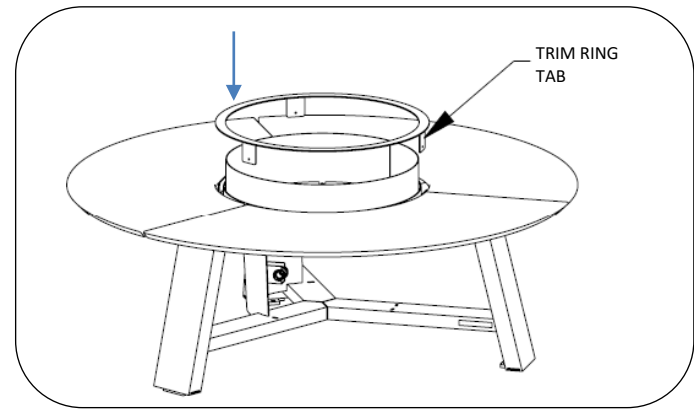
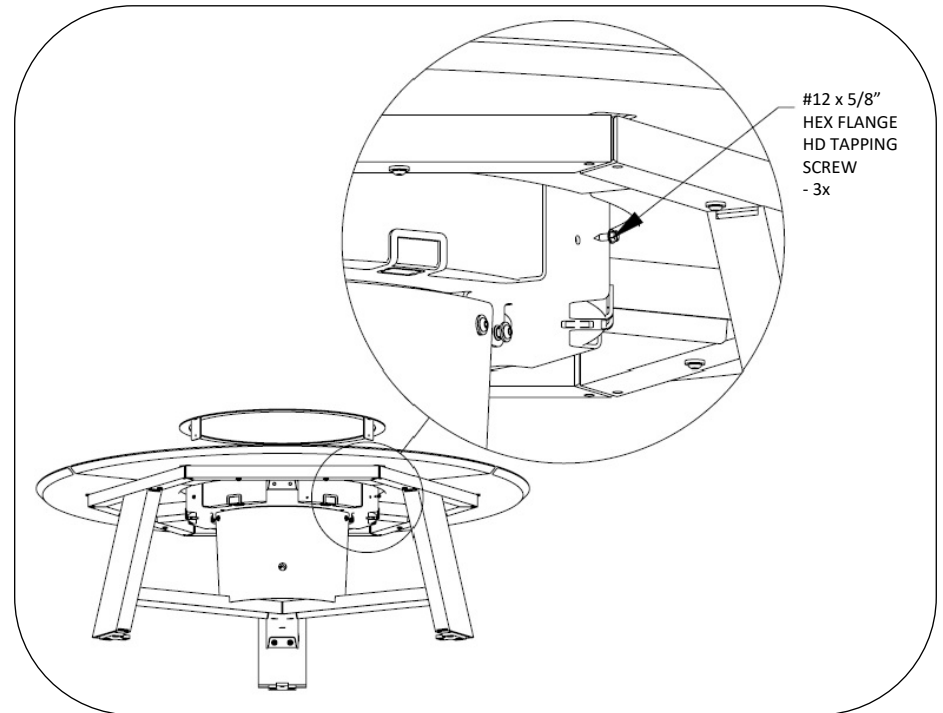

Fig. 4A – install trim ring
Fig. 4B – install trim ring screws
8. Install trim ring using (3) #12 x 5/8" flange head self tapping screws, see Fig. 4A and Fig 4b.